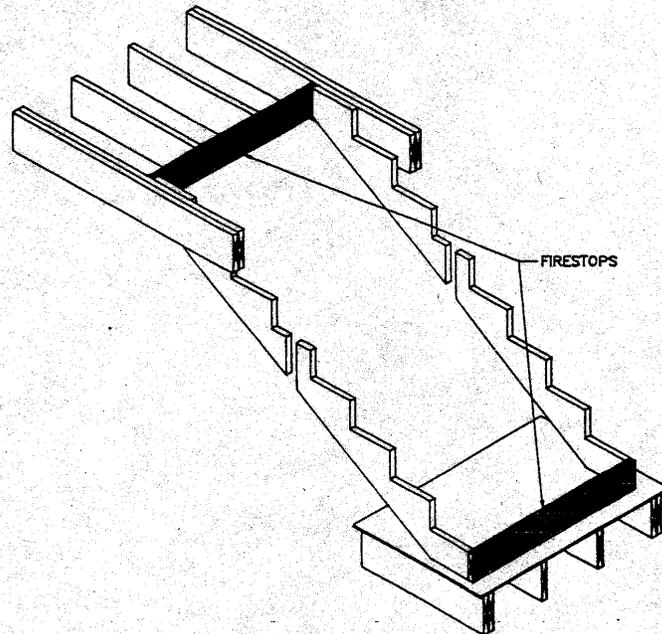

FIGURE 602.7g
3. In concealed spaces between stair stringers at the top and bottom of the run (see Figure 602.7g).